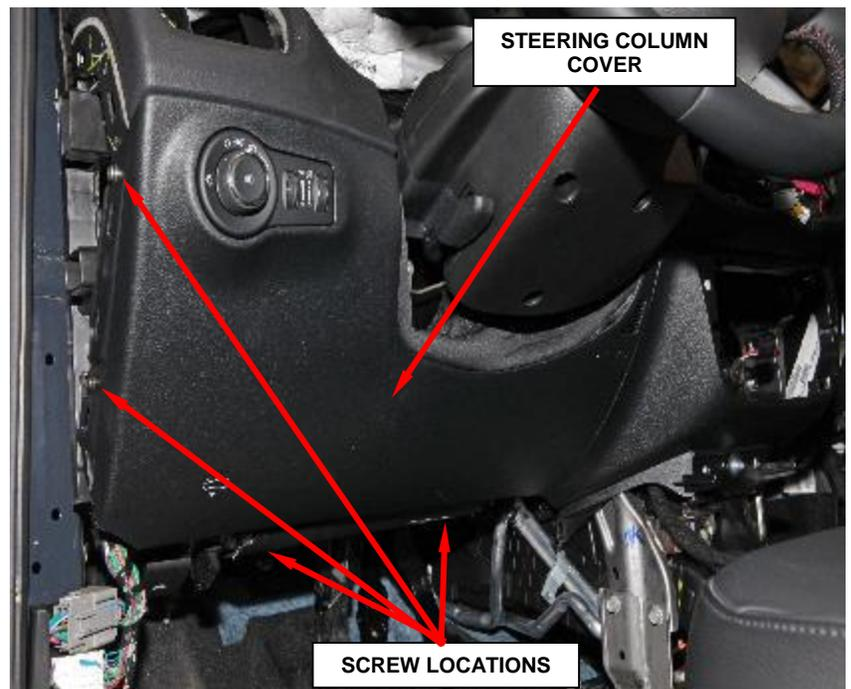

Figure 19 – Steering Column Opening Cover
48. To remove the left front floor air outlet, remove the steering column opening cover (Figure 19)